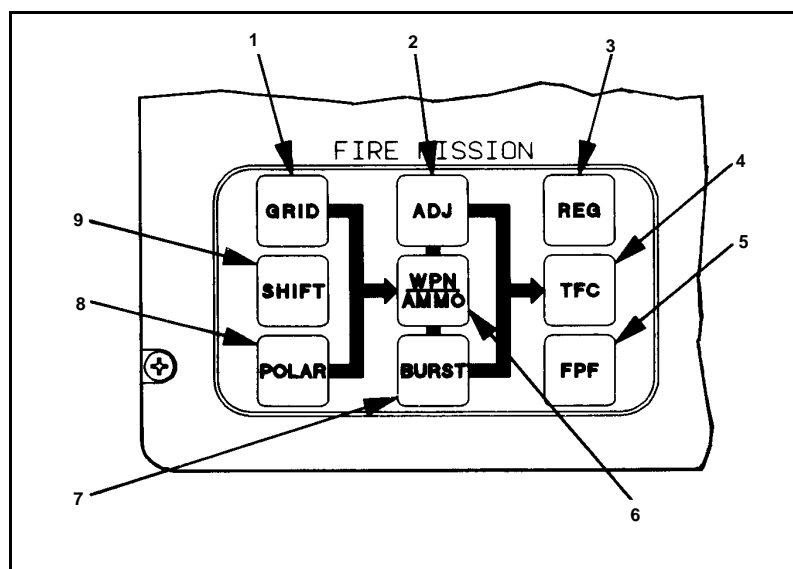

Figure 6-5. Fire mission switches.
d. **Fire Missions** (Figure 6-5). The operator starts a fire mission menu by pressing the grid, shift, or polar keys.